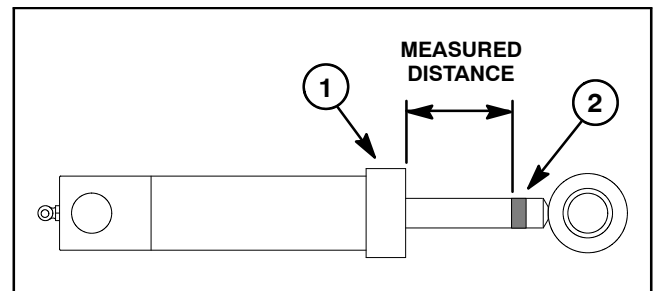

Figure 42
6. Place a piece of tape on the lift cylinder rod near the rod end (Fig. 42). Measure and record the distance from the lift cylinder collar to the tape location.
7. Leave the machine parked for two (2) hours and monitor the lift cylinder. The weight of the cutting deck may cause the lift cylinder to gradually retract due to internal leakage in the cylinder. Use the change in distance from the lift cylinder collar to the tape location to determine lift cylinder rod movement.
A. If the cutting deck is still suspended after two (2) hours and lift cylinder rod movement is less than 1.250" (31.7 mm), consider that the lift cylinder is in good condition. A lift cylinder in good, usable condition will show minimal rod movement.
B. Rod movement in excess of 1.250" (31.7 mm) after two (2) hours indicates a lift cylinder with internal seal damage or excessive internal wear. Replace or repair the lift cylinder (see Lift Cylinder and Lift Cylinder Service in the Service and Repairs section of this chapter).